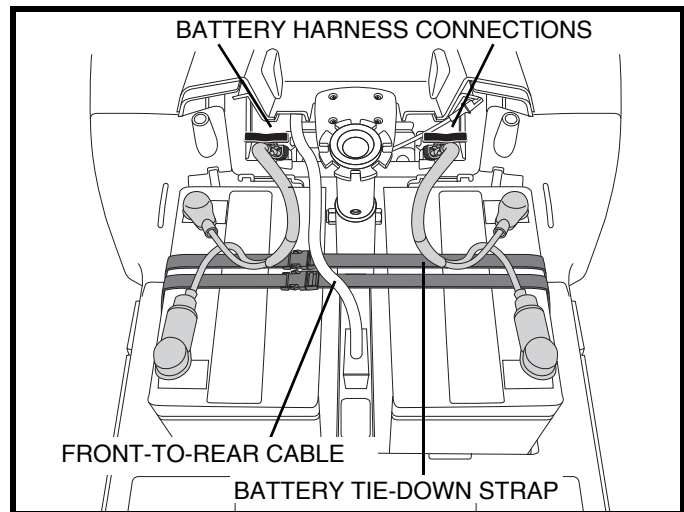

Figure 21. Harness Connections
5. Unplug both battery harnesses by pulling each harness out of its mating plug. See **figure 21**.
8. Connect both battery harnesses. **See figure 21.**